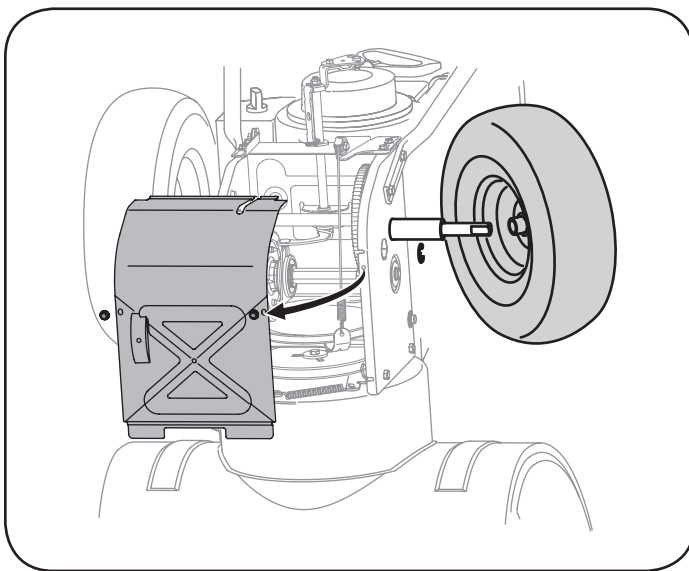

Figure 30
5. Remove the right-hand wheel by removing the screw and bell washer which secure it to the axle. See Figure 30.